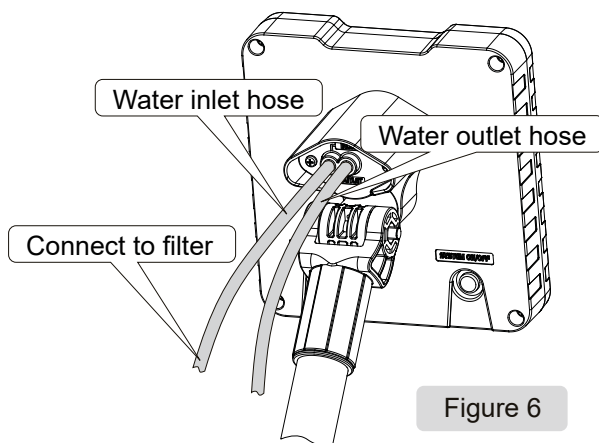

Figure 6
- 5) Roll out the water hose, estimate the distance from the water inlet of the irrigator unit to the bottom of your water reservoir. Cut the hose to a proper length that is long enough to cover the distance. Fit the hose to the water inlet as shown in **Figure 6**. Fit another end of the hose onto the connector of the filter.